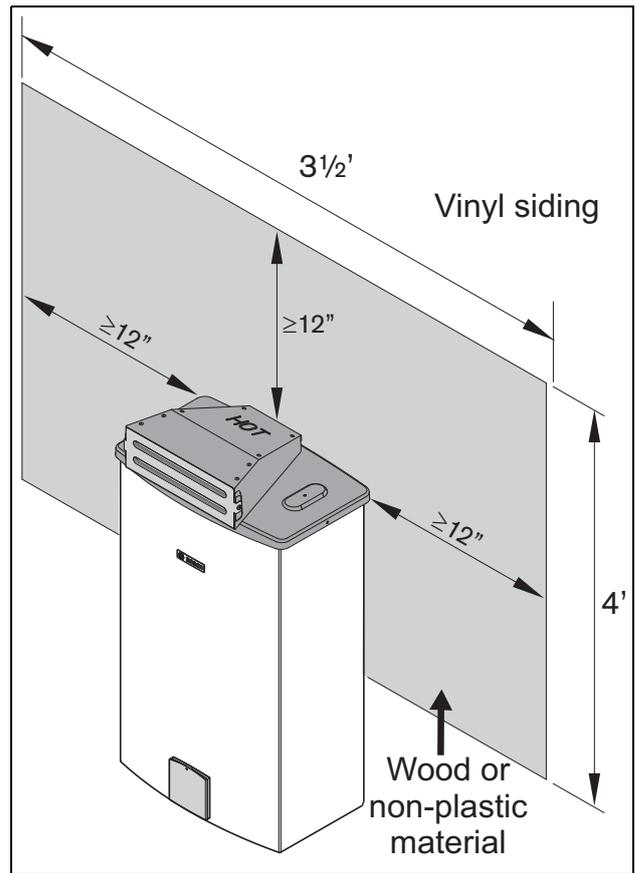

Fig. 14 Installation on vinyl siding
**Warning:** Do not mount water heater directly onto vinyl siding, see Fig. 14.
**Warning:** Do not mount heater directly to vinyl siding. With vinyl siding, a 3 1/2' x 4' area of the siding must first be removed and then replaced with wood or other non-plastic material. See Fig. 14.